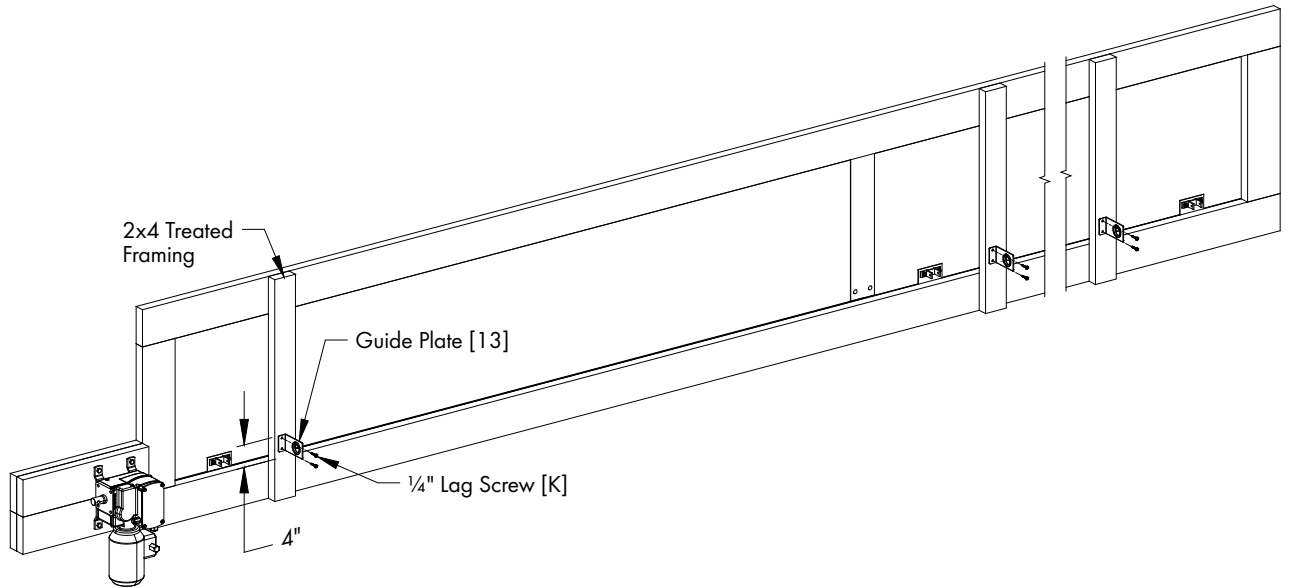

Figure 28
Secure (1) Guide Plate [13] to each 2x4 framing using (2) ¼" Lag Screws [K], 4" above the top of the bottom framing. See Figure 28.